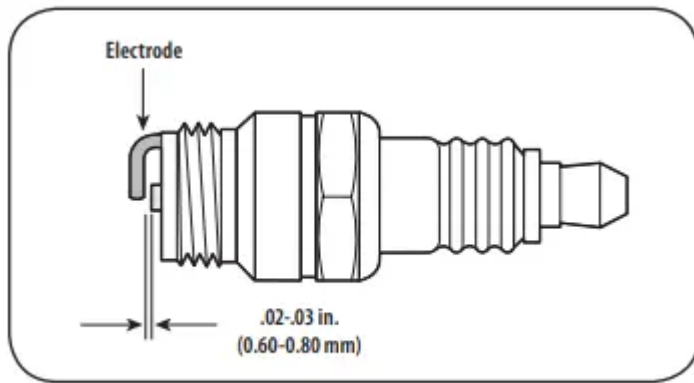

Figure 56
3. Measure the plug gap with a feeler gauge. Correct as necessary by bending side electrode. See Figure 56. The gap should be set to .02-.03 inches (0.60- 0.80 mm).